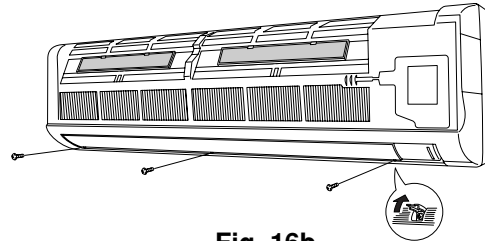

Fig. 16b
- (2) Remove the 3 screws. (Fig. 16b)
- (5) Affix the grille with the 3 previously removed screws. (Fig. 16b)
- (6) Install the air intake grille.